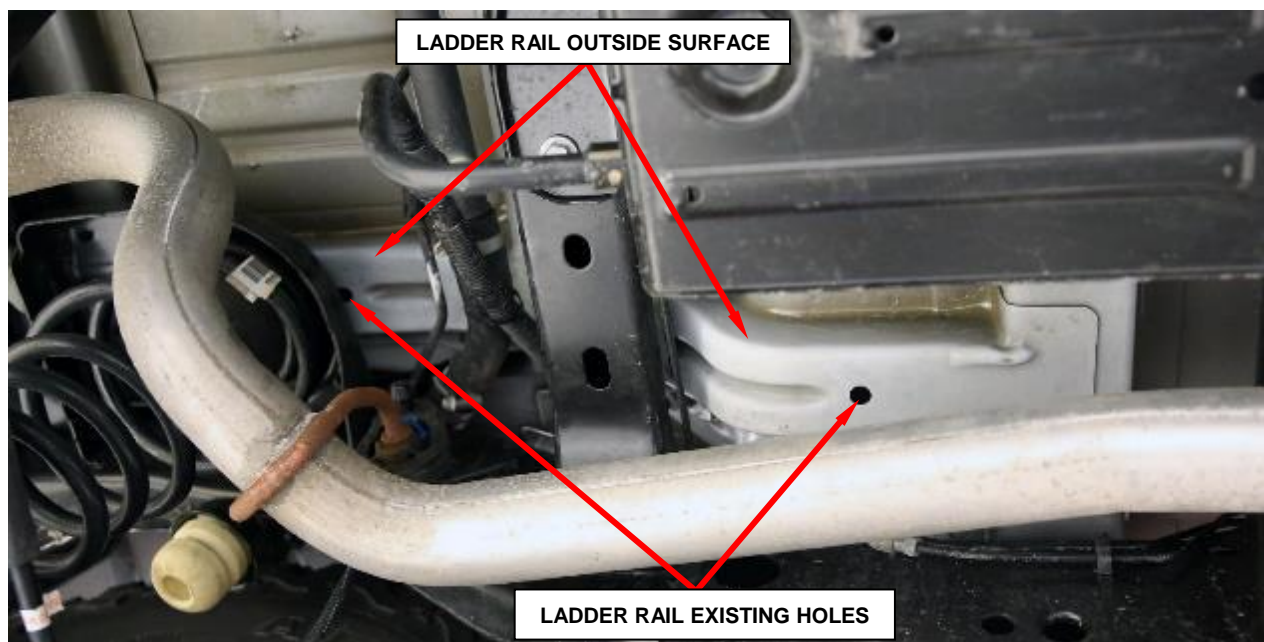

Figure 3 – Use a Power Washer to Clean Ladder Rail Inside and Outside
1. Power wash the left side rear longitudinal under body ladder rail. Clean the outer surface and inside the rail, using existing holes (Figure 3).